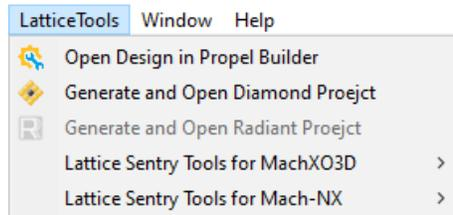

Figure 3.8. LatticeTools Menu
- Choose **LatticeTools** > **OpenDesign in Propel Builder** (Figure 3.8).